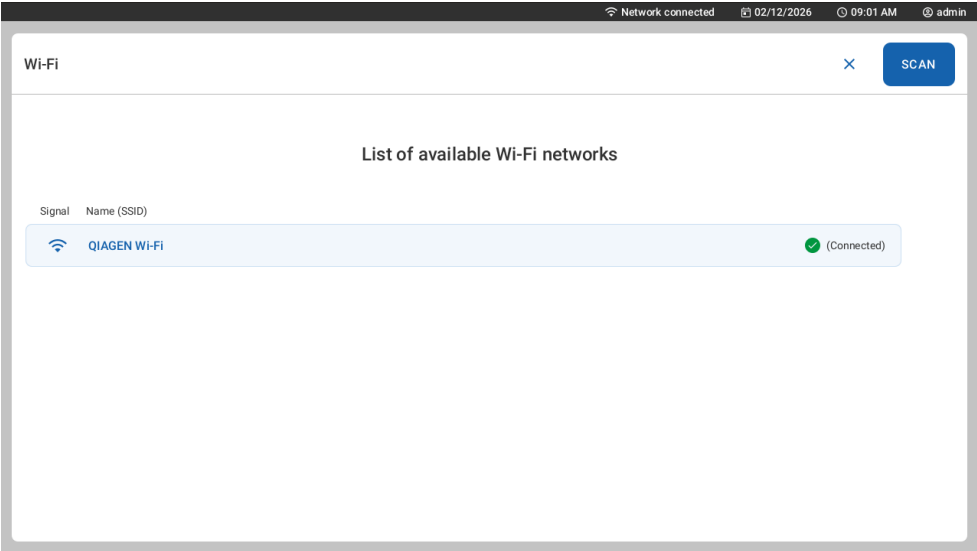

Figure 38. Wi-Fi network status.
- A message at the top of the display confirms the connection to a Wi-Fi network, and the network name is highlighted in blue with the status **Connected** (Figure 38).